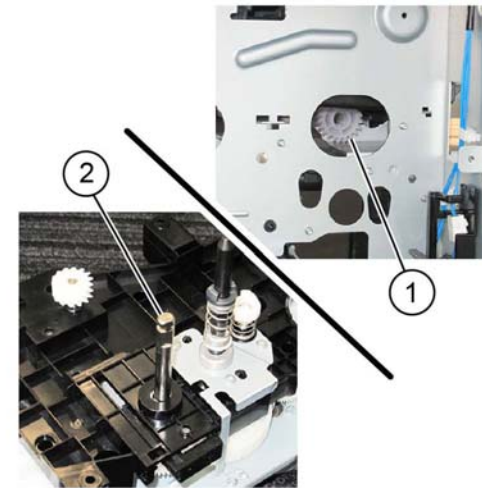

Figure 5 Gear alignment
2. When installing the drive assembly, align the gear (1) with the flat on the shaft (2), **Figure 5**.